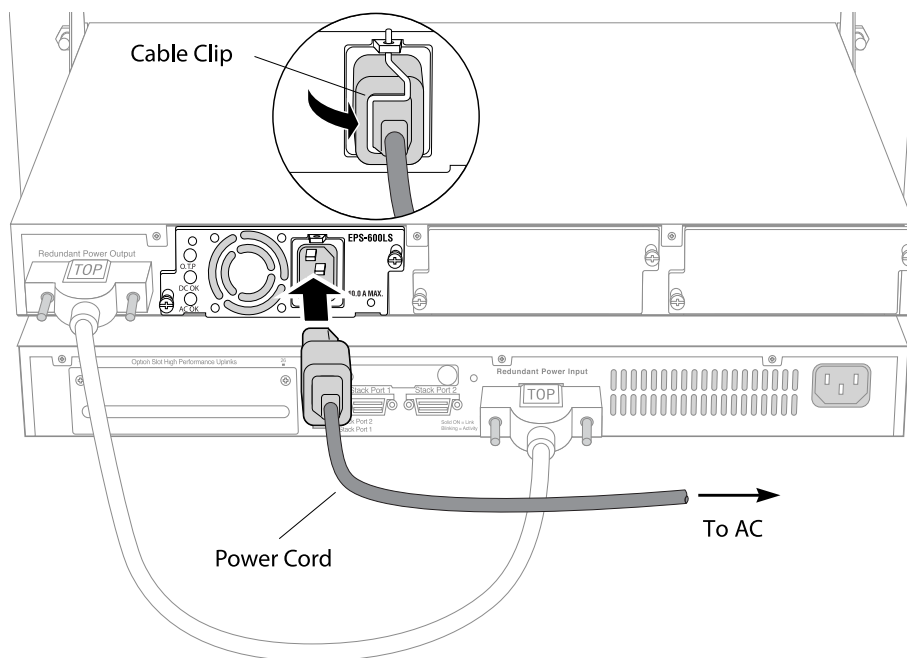

Figure 311: Connecting the AC Power Cord
5. Connect an appropriate AC power cord to the AC connector on the EPS-600LS unit (see Figure 311 on page 378).
Use the cable clip on the EPS-600LS unit to hold the AC power cord in place (see Figure 311).